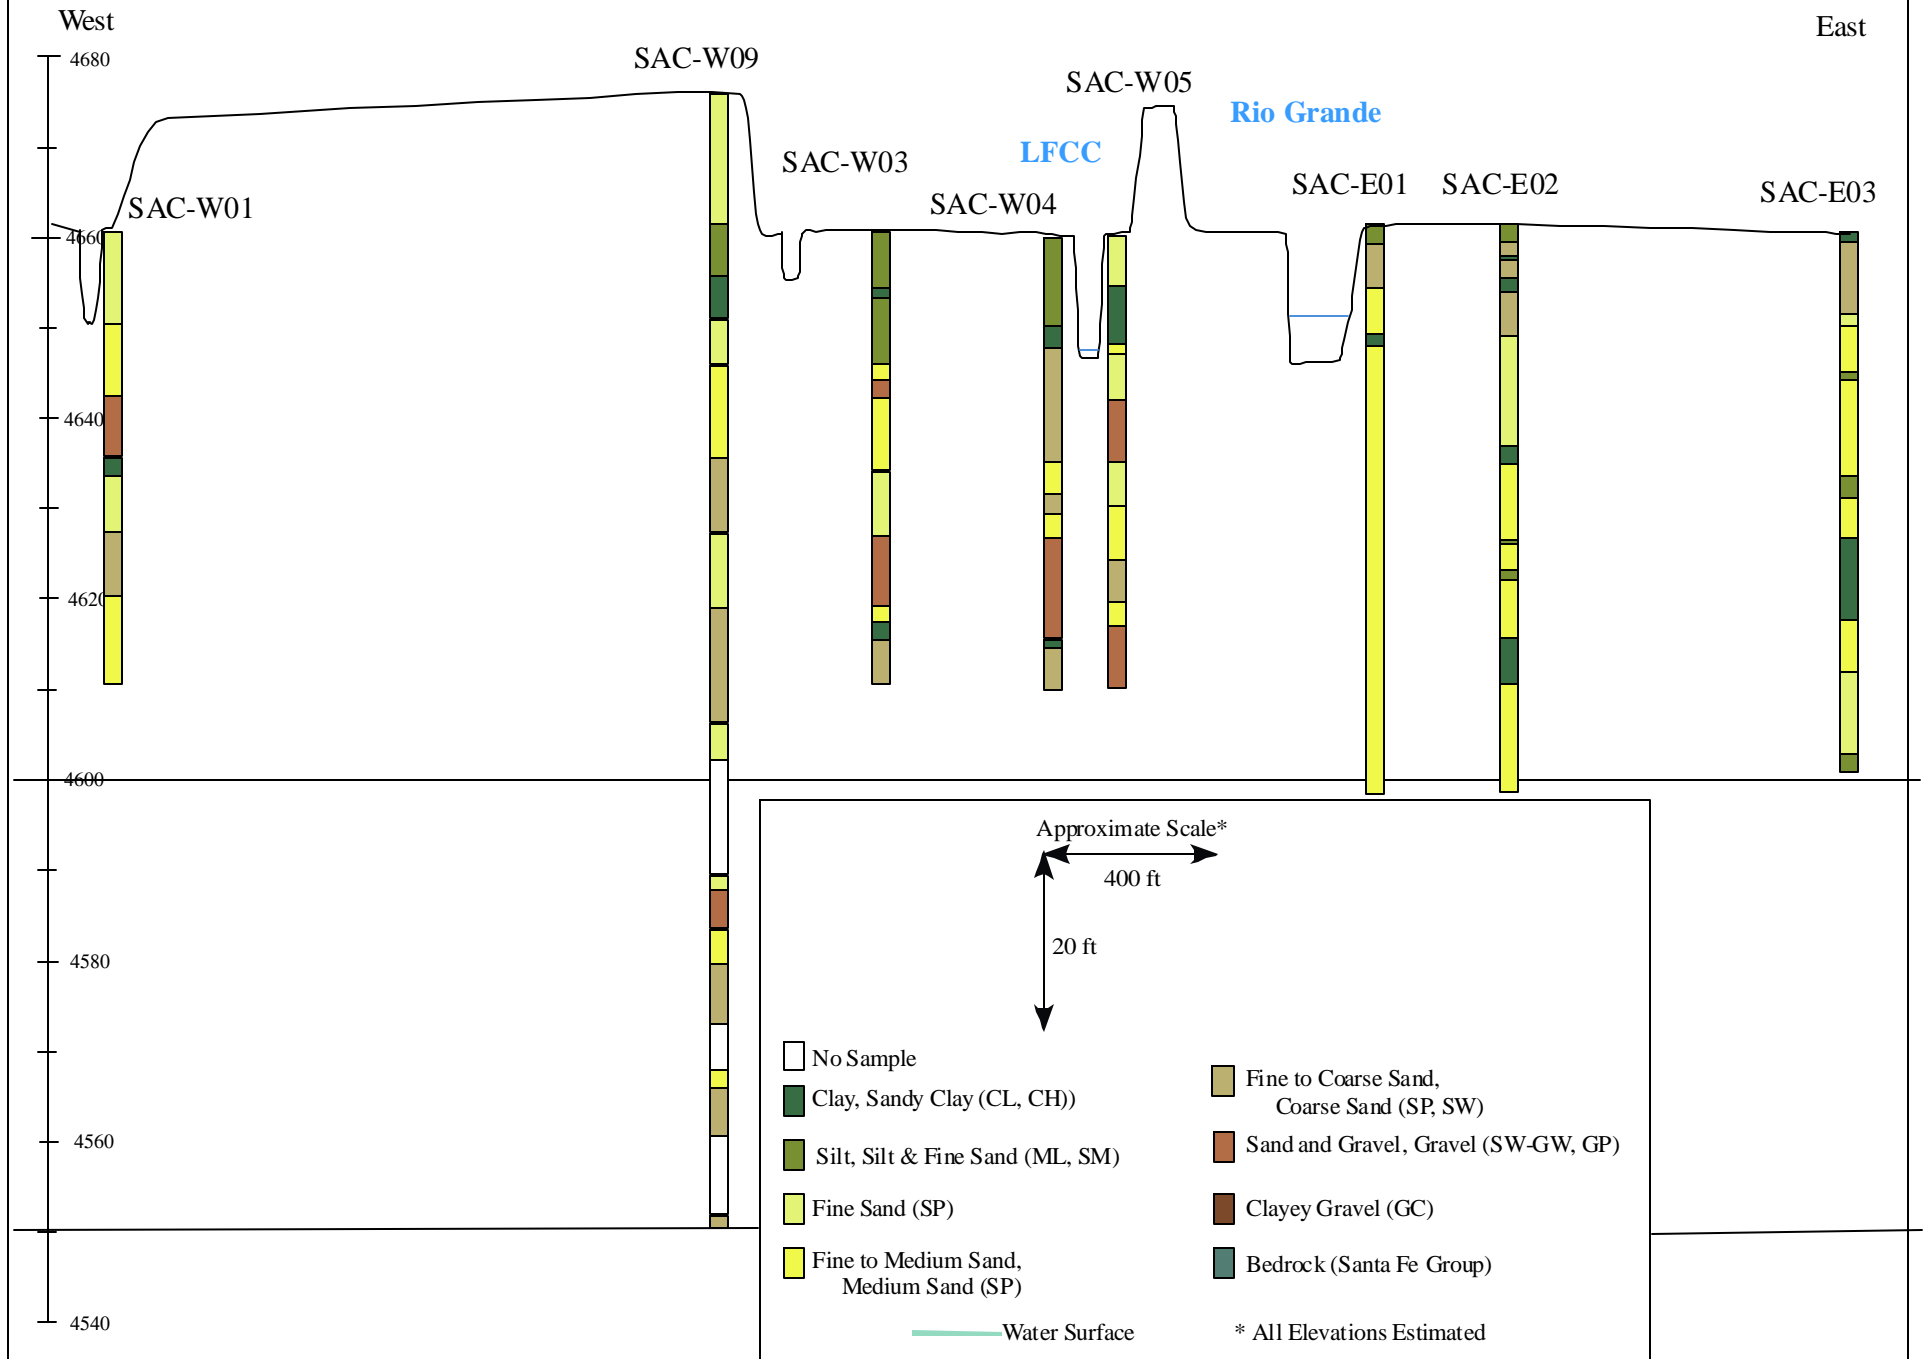

Figure 10. Geologic Cross Section, San Acacia Transect
- Geologic cross sections for each transect (Figures 10 through 16)